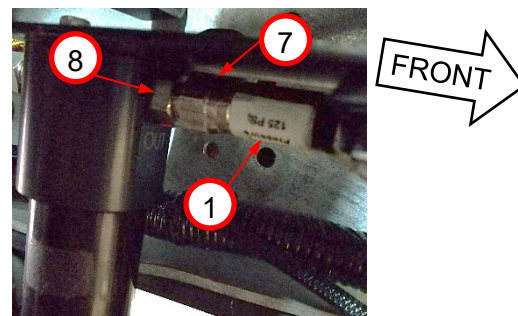

Figure 2.
7. Use a wrench to loosen LP flexible fuel hose (1) compression nut fitting (7) from LP filter fitting (8). *Figure 2*
4. Hand tighten LP flexible fuel hose (1) compression fitting nut (7) on LP filter fitting (8). *Figure 2*